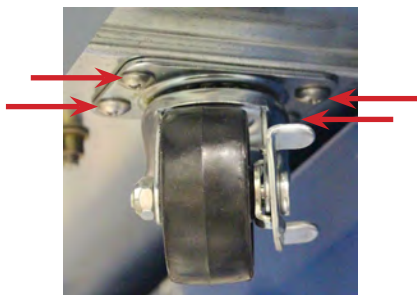

Figure 5
3. Using a #2 Phillips screwdriver, remove the 4 screws securing each caster to the base of the unit (Figure 5).